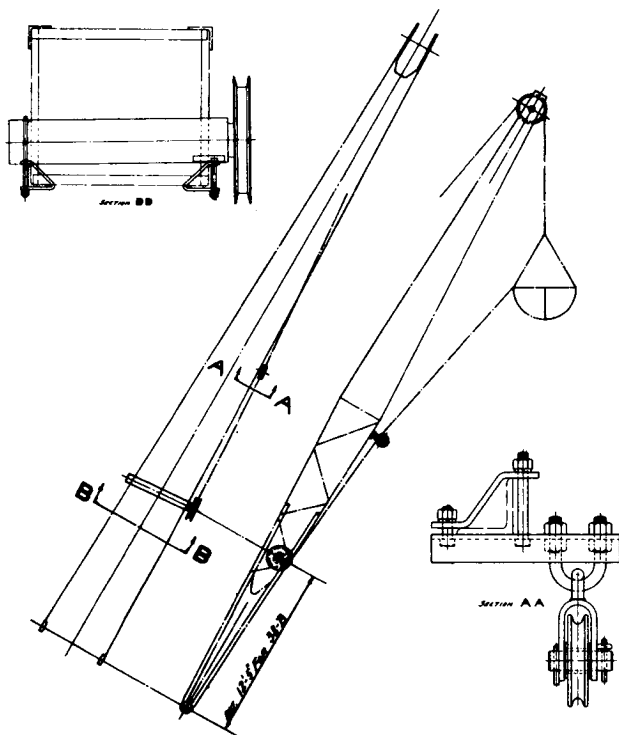

FIG. 12
The tagline is of the spring loaded wheel type mounted on the bottom chord angle of the boom as shown in Fig. 12.
3. Fasten the sheave block to the lower chord angle of the boom as shown in Fig. 12.